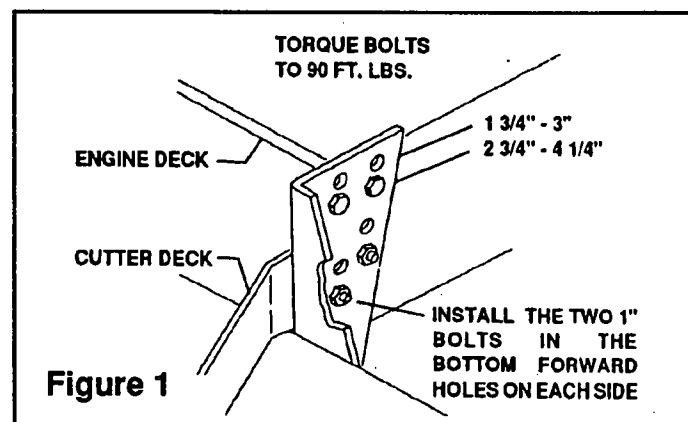

Figure 1
7. Use lower set of holes in deck mounting brackets for mowing in the range of 2-3/4" through 4-1/4". Use the upper set of holes in the deck mounting brackets for mowing in the range of 1-3/4" through 3". (See figure 1) Insert (6) 1/2-13 x 1-1/2 bolts; (2) 1/2-13 x 1" bolts, flat washers, lock washers and hex nuts. Tighten all eight bolts very securely. Then go back and retorque each one to 90 ft. lbs.
Additional range to the cutting height can be achieved by repositioning the cutter deck in relationship to the engine deck. (This adjustment also affects the pitch of the deck). There are two positions. (See figure 1, page 3) Suggested mounting is in the bottom hole. For cutting lower, mount the cutter deck in the upper hole to drop the deck down. Check the cutter deck belt alignment after repositioning the deck.